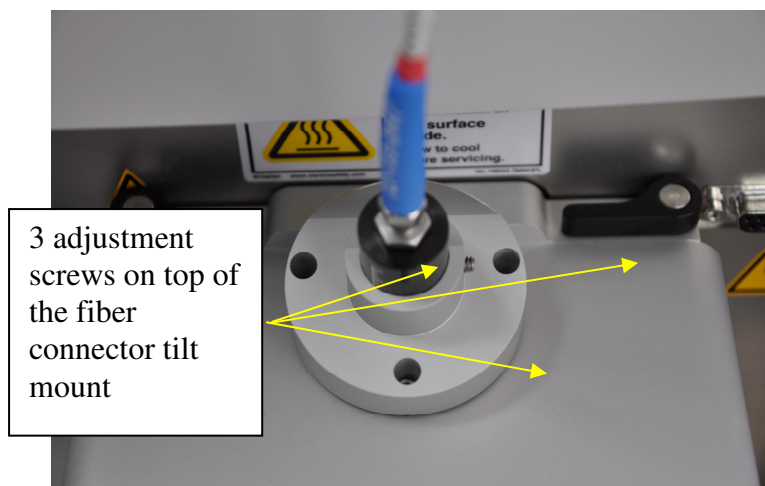

Figure 8.6 Adjustment of the Laser Position
Step 3. Continue with the same spot. Turn the laser to the maximum power (minimum attenuation) by pressing the “ON” position. Using a hexagonal screwdriver, turn the three screws (see Fig. 8.6).
Now the user can set the best laser energy that appropriate for his/her matrix. Alternatively, the position of the laser focal spot can be adjusted by rotating the tuning screws (Figure 8.6) based on the quality of the MS signal by a trial-and-error method.